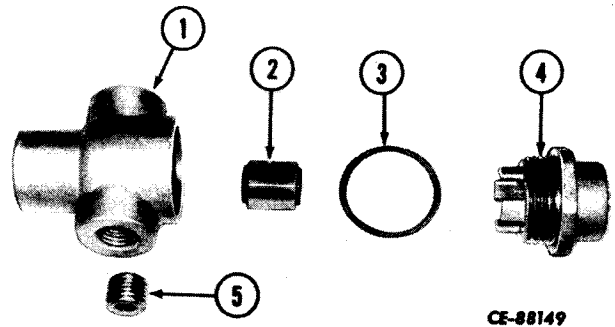

Figure 13-49
Remove the cap (4, Fig. 13-49) and gasket (3). Slide the seat (2) from the body (1). Remove the plug (5).